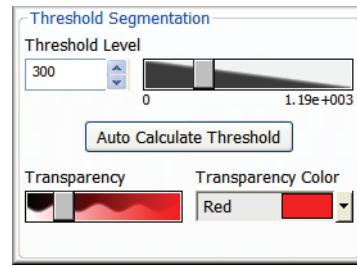

Figure 40. Threshold Segmentation
4. After a threshold is set, the image will have an overlay showing the regions that were measured, as shown in Figure 40).
1. Use the **Transparency** slider (in Figure 40) on the **Measure** panel to change how much measurement regions block the image behind it. Moving this slider all the way to the left makes the region transparent (except for its outline). Moving the slider all the way to the left fills the region with the selected color.